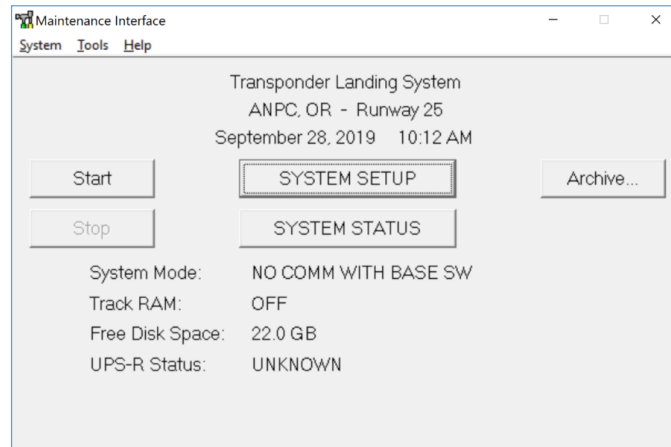

Figure 2-1 Maintenance Interface (MI) Window
2.2.1 Maintenance Interface (MI)
The Maintenance Interface (MI) [Figure 2-1] is a program which runs in the Windows operating system. It is used to start the system software, configure and calibrate the system, as well as allow a technician to check the system's health and status and facilitate trouble shooting.